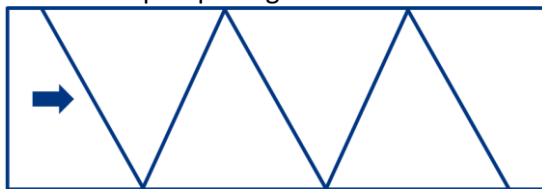

Figure 4a: W-patterns (zigzag) for collecting soil samples
- When sampling, walk in a zigzag (W) pattern across the field (see Figure 4a), ensuring at least six sub-samples per leg.